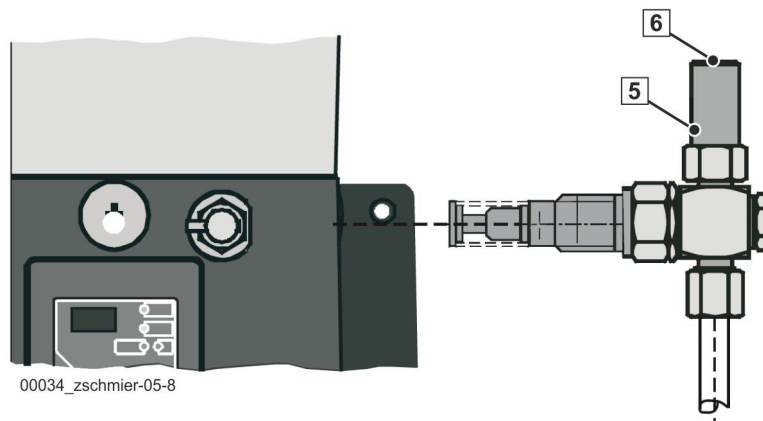

Fig. 481
A pressure relief valve (5) (**Fig. 481**) protects the entire lubrication system against excessive system pressures. It is mounted directly on the pump element.
If a clogged distributor or lubrication point causes an operating pressure of over 300 or 200 bar, the valve opens and grease will visibly emerge from the escape point (6) (**Fig. 481**).